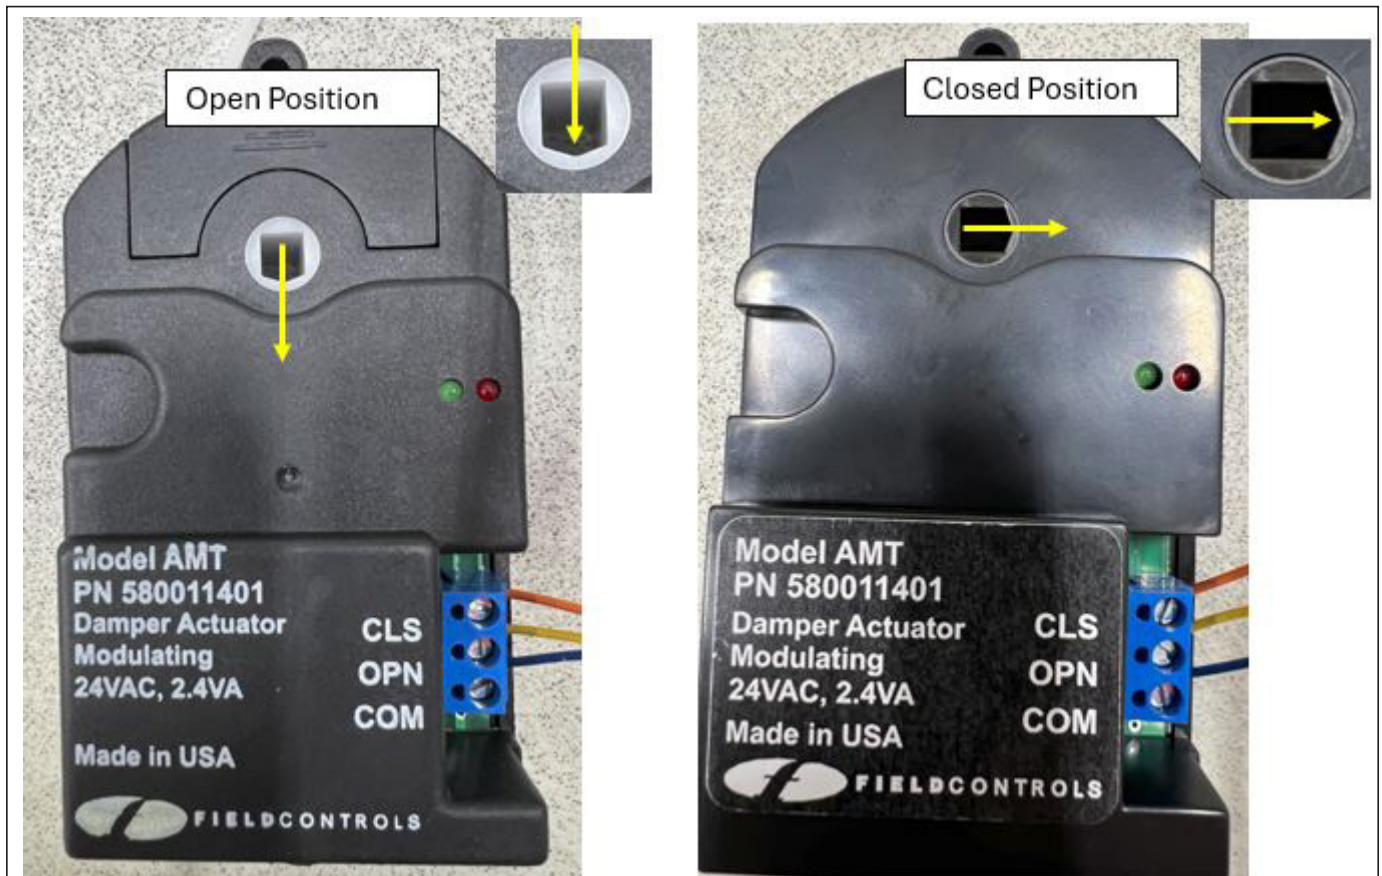

Figure 10: Damper Actuator Terminals and Actuator Open/Closed Shaft Positions Detail
The EvenAir 2.0 system works with a proprietary design modulating damper assembly built by Field Controls. The modulating damper assembly comes in various standard industry sizes in either round or rectangular configurations. Refer to Figure 10 to view the damper actuator. It has a 3-wire terminal design with LED lights to indicate when the damper is fully open (Green Lite) or in a fully closed position (Red Lite). The EvenAir2.0 system requires a minimum of one (1) modulating damper to be installed on the supply air ductwork to each area with a maximum of up to five (5) dampers per area. Use 18 gage solid copper wire to connect damper actuator to EvenAir2.0 control panel. Match up terminal designations (CLS, OPN and COM) when wiring at each end termination (ie: CLS to CLS, OPN to OPN and COM to COM) and match wire terminals for AREA 1 damper to control panel AREA 1 terminal, match wire terminals for AREA 2 damper to control panel AREA 2 terminals and match wire terminals for AREA 3 damper to control AREA 3 terminals. For areas with multiple dampers installed, connect same area multiple dampers wiring in series (or daisy-chain) method from damper to damper. Refer to electrical wiring diagram in Figure 11 to see how to daisy-chain wire additional area dampers. The controller sends signal to each area damper telling it to open or close. This signal is sent separately to one area then the next area and then the final area. At no time, are all area dampers modulating at the same time. At the end of each call for heat or cooling, the modulating dampers will move to its fully OPEN position and the green light will illuminate on each damper actuator for 1/16 of a second. Remember to install foil seal tape to all joints connecting damper to ductwork and insulate exposed damper surfaces to eliminate ductwork sweating/condensation during cooling cycle. The modulating dampers are intended to be installed in compliance with all local and national codes including National HVAC Ducting Standard published by SMACNA.
Damper Actuator not moving during call for heat/cooling	- The damper actuator position will move from open position to last know position on call for heat/cooling. Last position may have been fully open. Verify damper movement by checking position if shaft on actuator. Refer to Figure 10 for actuator shaft position when fully open or fully closed. - The damper actuator will modulate position normally once every 15 seconds. The rotation or movement of actuator may be very small or very large in movement. Every 20 minutes during an event call, the damper actuator will fully open damper then immediately move damper back to last saved position. - Verify damper actuator shaft location during event call for heat/cooling. Turn OFF EvenAir 2.0 control panel using ON/OFF switch during event. Watch damper actuator for rotation to OPEN position. If each damper moves to OPEN position, then damper actuators are functioning properly. If damper actuator stays in partially open position, check damper control wiring prior to actuator replacement.